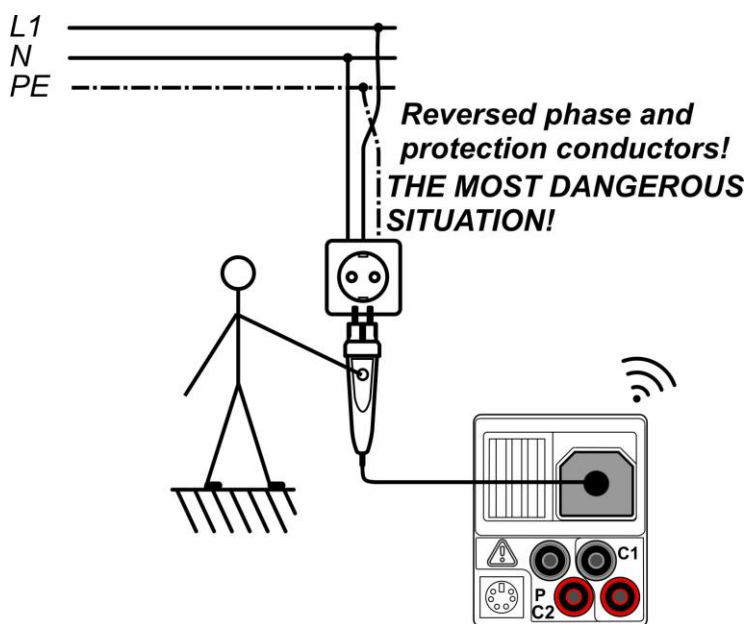

Figure D.4: Reversed L and PE conductors (application of plug commander)
- ❑ **Connect** commander to the item to be tested (see *figure D.4*).